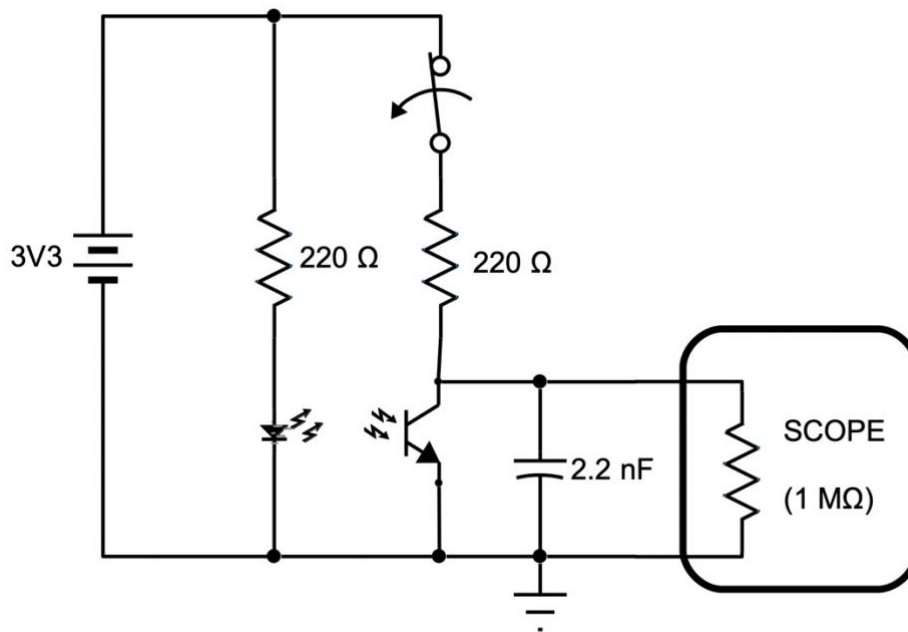

FIGURE 3-12: Simulation of phototransistor circuit (stage 1 and stage 2)
Step 1: Construct the circuit as shown in Figure 3-12. Arrange the IR LED and the IR phototransistor so that they are next to each other and pointing at the ceiling.